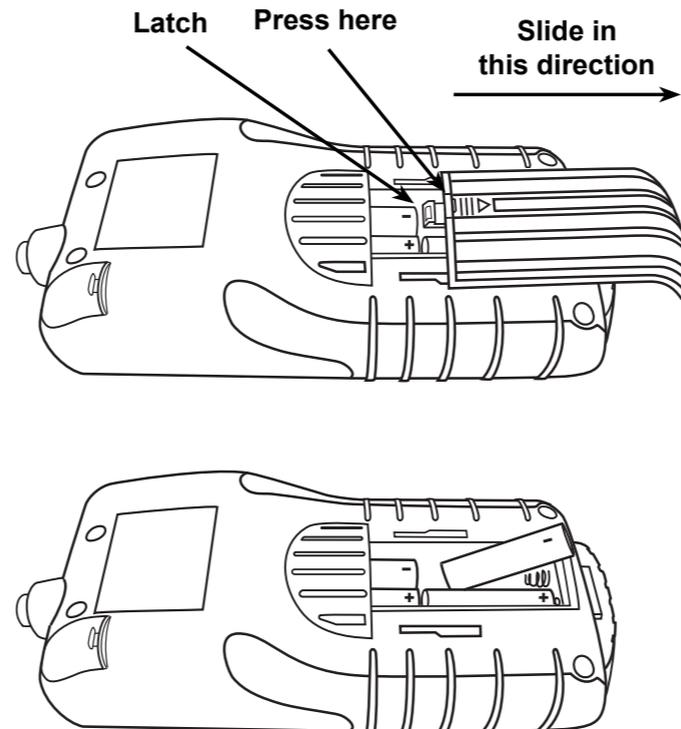

Figure 22: Battery Replacement
5. Insert new batteries as shown in Figure 22. Make sure the positive and negative terminals are positioned correctly.